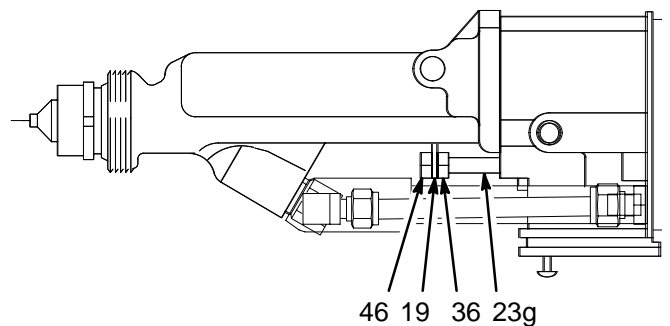

Fig. 31
2. Remove the jam nut (46) and actuator arm (19). See Fig. 31, page 39.
3. Remove the jam nut (46), actuator arm (19), and adjustment nut (36). See Fig. 31.